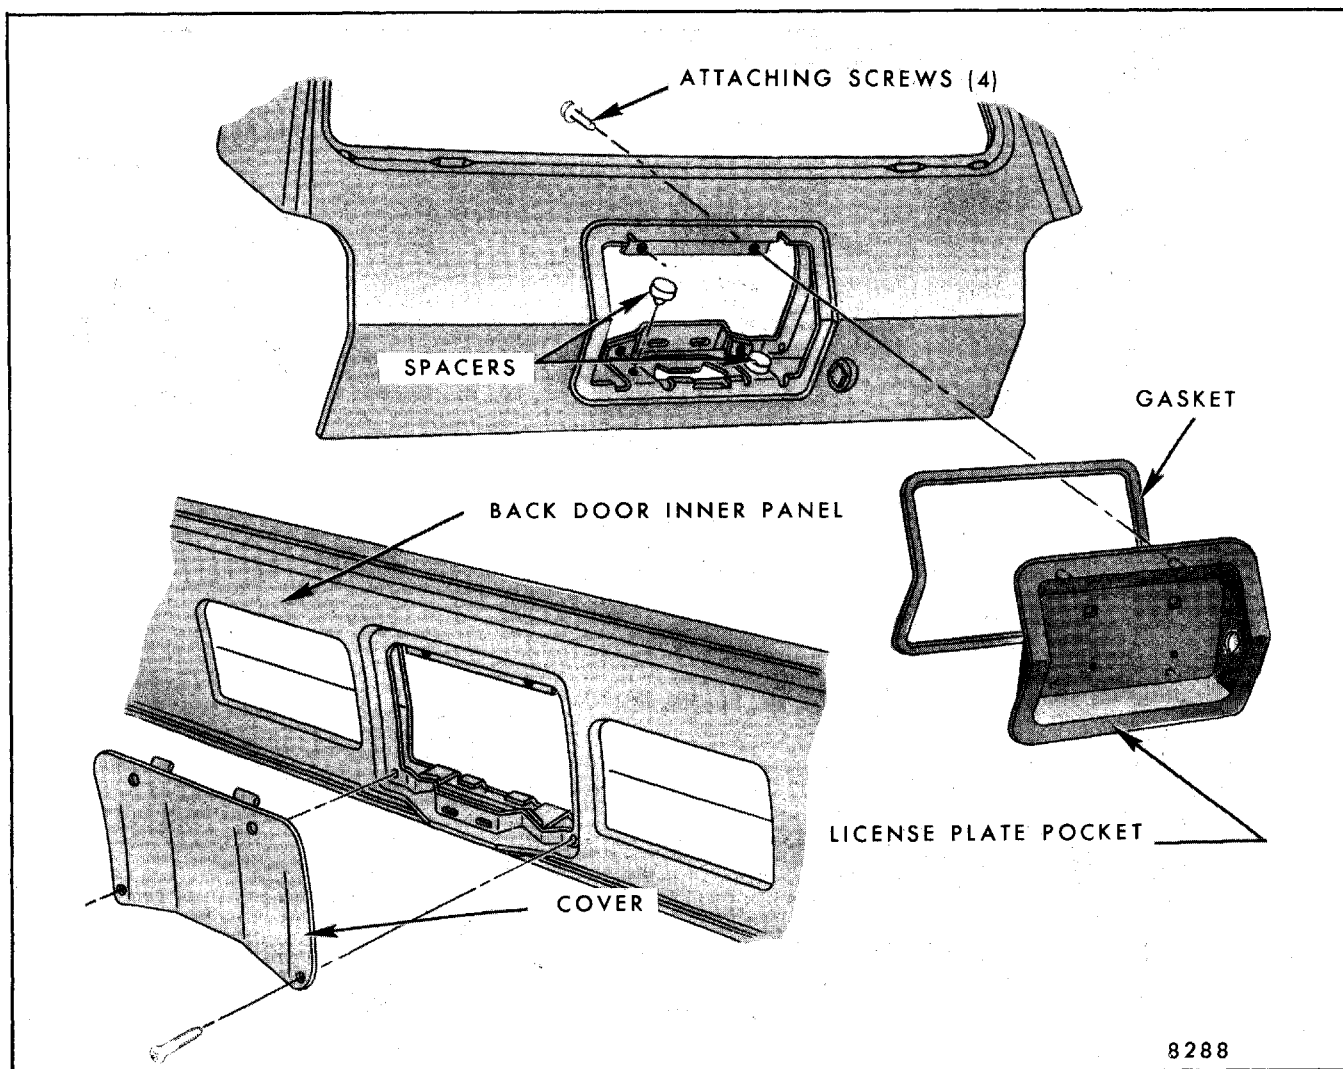

Fig. 7-91-License Plate Pocket and Inner Cover - "H-15" Styles
1. Open back door and disengage license plate inner panel access hole cover (Fig. 7-91).